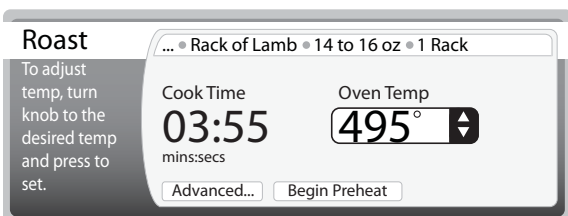

Figure 2.7: Adjusting Oven Temp
3. Turn the inner CookWheel knob to adjust the temperature in 5°F (2°C) increments. The temperature cannot be altered more than 25°F (14°C) in either direction (Figure 2.7).